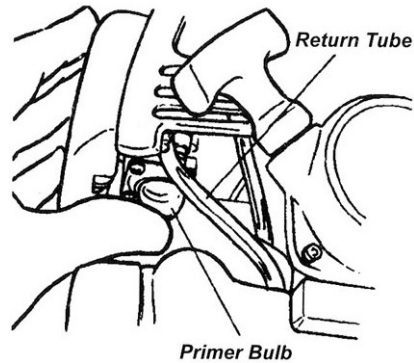

figure 26
3. Prime the engine by depressing the carburetor primer bulb four or five times, See Figure 26. You should be able to see fuel inside the bulb.